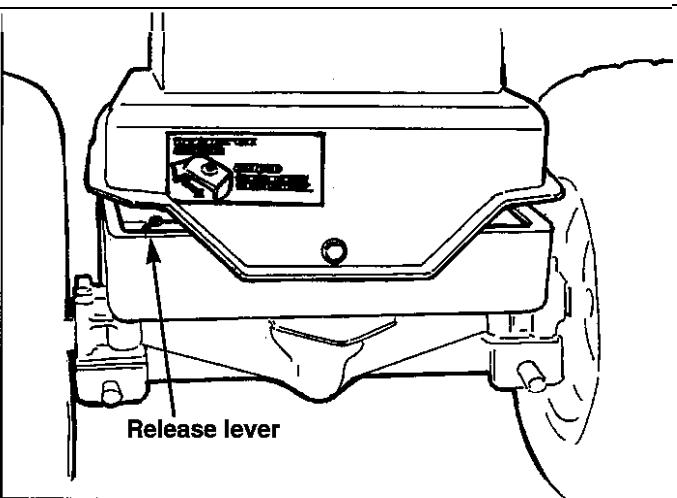

Figure 9. Release Lever - Hydro Models
2. See figure 9. The release lever is located under the rear tractor frame, above the transmission. Release lever must be in the rearward position to push the tractor by hand.